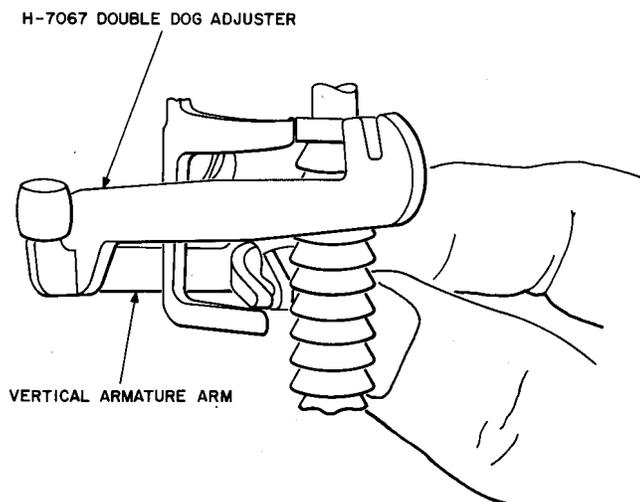

Fig. 17—Method of Bending Vertical Armature Assembly Equipped With Arm
(2) When the bearing pin is removed, remove the vertical armature from the right side of the switch by tilting it downward so the rear end of the armature drops below the lug on the frame which supports the bearing pin clamp. Turn the armature slightly to permit its removal. When the switch is equipped with an armature arm, the removal of the armature will be facilitated if the arm is bent in a direction away from the frame. To bend the arm, use the AECo H-7067 adjuster applied at the stud end of the arm while holding the armature with the fingers. (See Fig. 17.) Also in this case replace the vertical interrupter spring assembly as described in Section 030-705-803 and the release magnet bracket as described in 3.26.